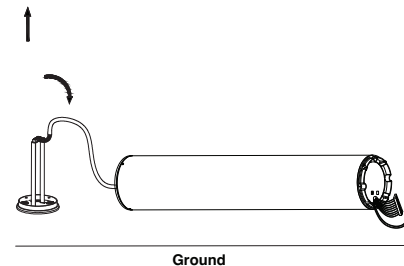

Fig. 6
4. Lay the fixture shaft down by the side of the installed anchor bolts. Keep the wires connected. (**Fig 6**)